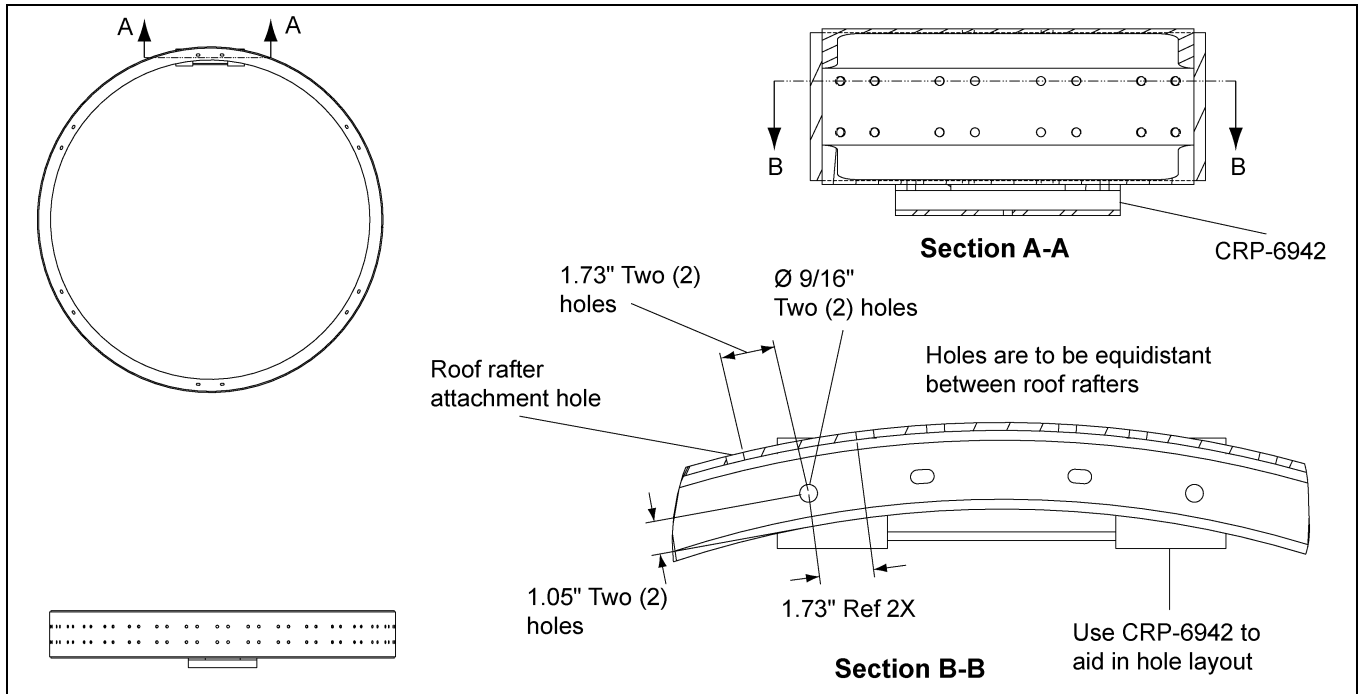

Figure 4D
5. Drill holes in the center collar. For a reference, *See Figure 4D*. The holes must be positioned equidistant between roof rafters and as close as possible to the manway, as shown. Use CRP-6942 to aid in the setup of holes.